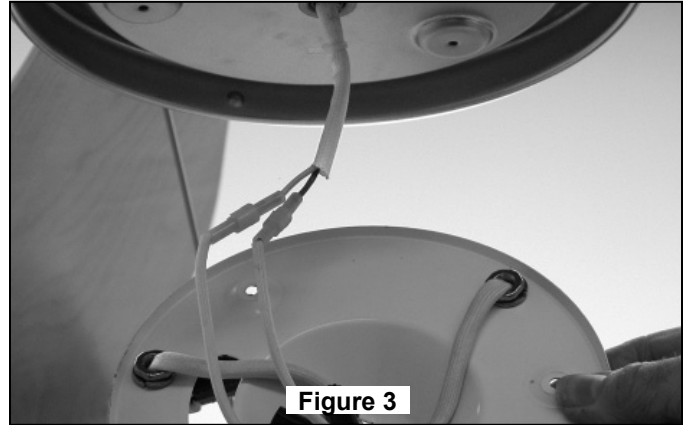

Figure 3
4. Carefully lift the fan and seat the downrod/hanger ball assembly on the hanger bracket that was just attached to the ceiling joist. Be sure the groove in the ball is lined up with tab on the hanger bracket. (Figure 3)
5. Attach the safety cable to ceiling support cable. Slide cable clamp onto safety cable (from fan). Place the end of cable through the loop of ceiling support cable. Pull as much cable through loop as possible. Feed end of cable into clamp hole and firmly tighten screw (Figure 3). Cut off excess safety cable.
- Connect wires as indicated: (Figure 3)
**1. Operating & Using Remote Transmitter (Figure 3):** Install 9 volt battery (If not using for long periods of time, remove battery to prevent damage to transmitter). Store the transmitter away from excess heat or humidity.
3. Securely attach plugs from motor to sockets on Downlight Socket Plate Assembly (Figure 3)